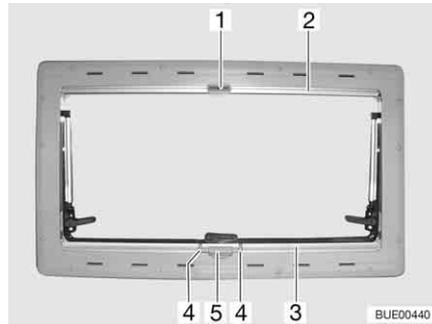

Fig. 59 Hinged window
- Press handle (Fig. 59,4) and draw blind (Fig. 59,3) from the bottom to the top up to the desired height.
- Clench handle (Fig. 59,4). The latch is released.
- Slowly return the blind (Fig. 59,3) to its initial position.
- Pull insect screen (Fig. 59,2) down until it touches the blind (Fig. 59,3), and engage the closure latch (Fig. 59,1) in the locking device (Fig. 59,5).
- Release the closure latch (Fig. 59,1).